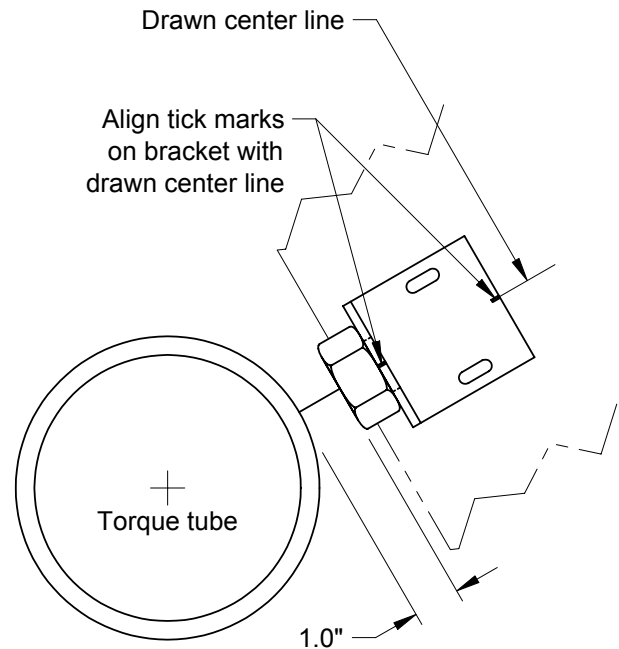

Figure 1-C
2. Cut the "Center Line Locating Tool" pattern from the back page of these installation instructions. Place the "Center Line Locating Tool" on the torque tube and mark a line on the body structure where the bracket will be installed, see Figure 1-B.